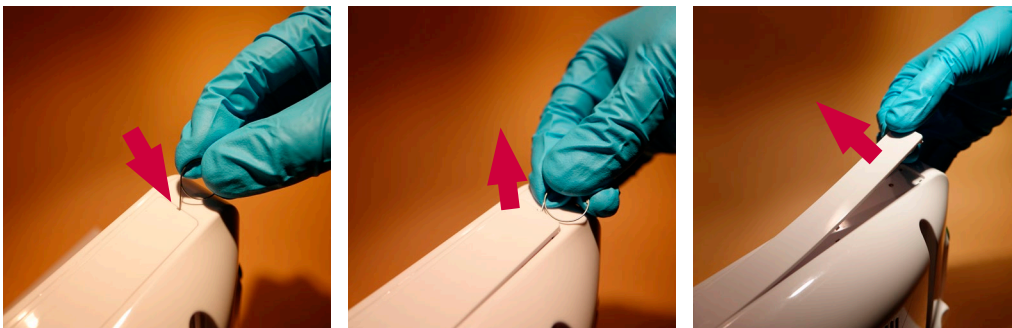

Figure 4 Removing the name plates
- Remove the name plates with the Ambu logo on the top and bottom of the displaying unit (Figure 4)**